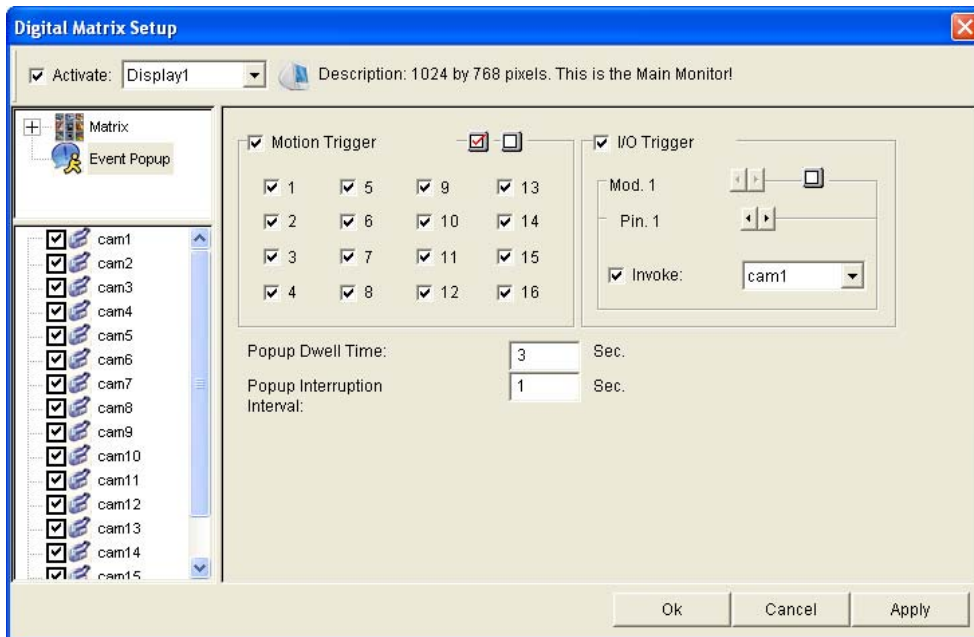

Figure 3-40
2. To configure pop-up alert, in the upper left column, click **Event Popup**. Figure 3-40 appears.